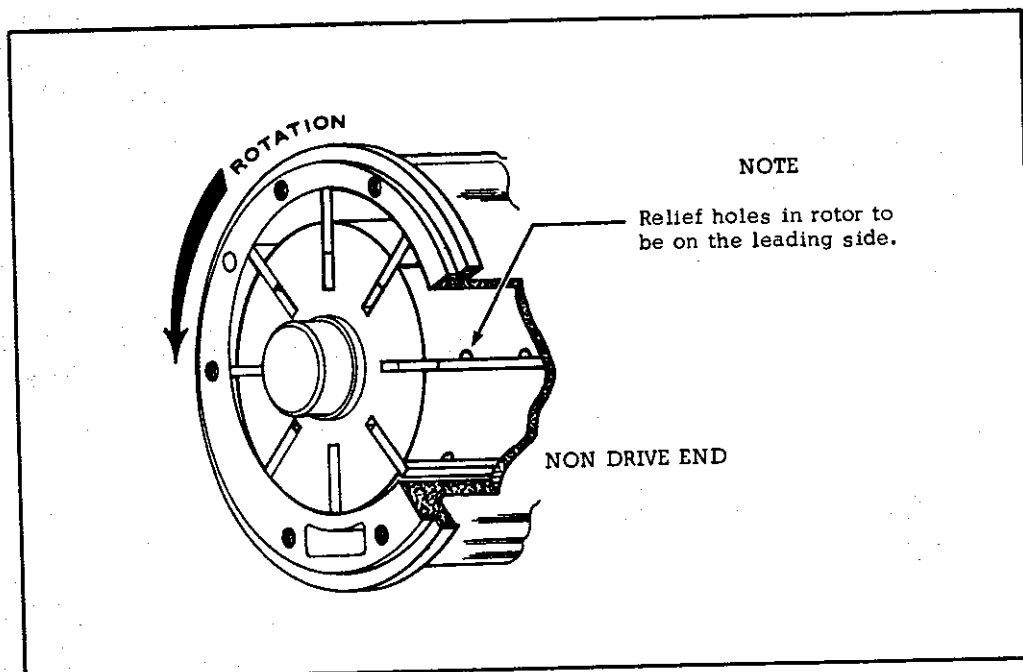

Figure 3-3. Compressor Rotor Installation
f. Replace blades (88, Fig. 5-4) when the coating is worn off and bare metal is exposed. Blades should slide freely in rotor slots. (Also see Fig. 3-3).
a. Coat O-rings, blades, and internal machined parts with clean lubricating oil at time of reassembly. Reassemble rotor per Figure 3-3.